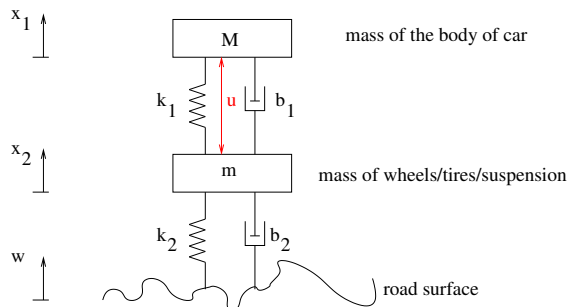

Figure 2: One-dimensional mechanical model of an active suspension system.
2. Recall the car suspension system that we introduced in Homework 5. (You may want to look at Homework 5 again for some of the details.) Recall that the transient response of the system was quite bad: when there is a bump, the body of the car will experience large oscillation, and the settling time is long. Now let us say we want to design an *active suspension* system to improve the transient response. The active suspension system produces a force u , which may depend on the value of x_1 , x_2 and W (see Fig. 2). The relationship between the output $y = x_1 - x_2$, the input w , and the control u is given by: